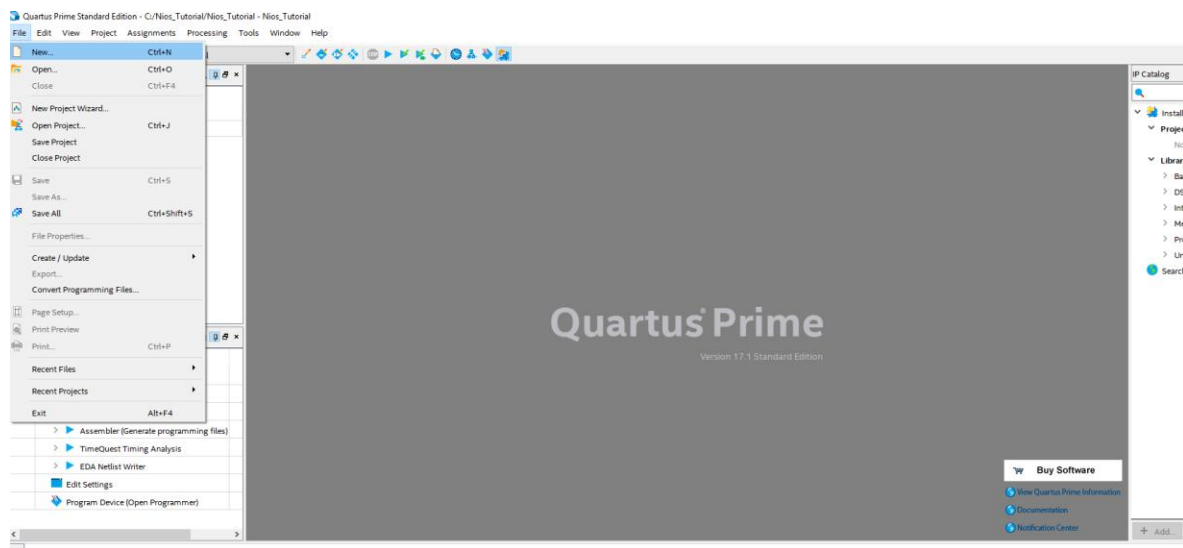
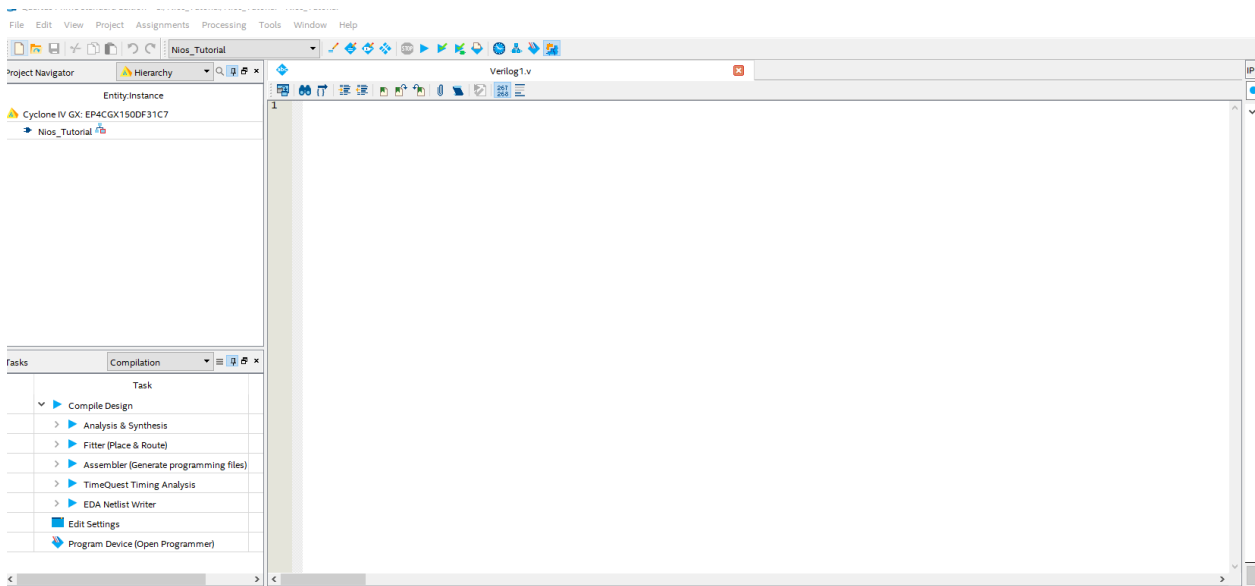

Figure 2-1 Creating New Verilog file
Figure 2-3 Blank Verilog File
- 1.) First thing we want to do is create our Verilog File. To do this, choose **File → New → Verilog HDL File** as shown in Figure 2-1 and 2-2. You will get a blank Verilog file as shown in Figure 2-3.